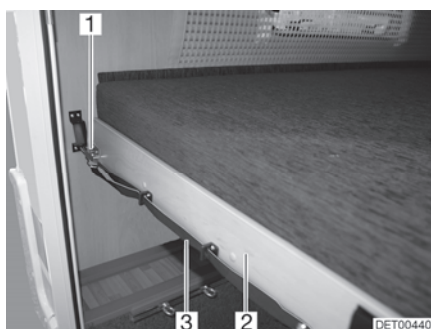

Fig. 64 Bunk bed (rear)
- Pull on the loop (Fig. 64,3) and release the latch (Fig. 64,1).
- Pull the slatted frame (Fig. 64,2) together with the mattress forward until it latches in place.